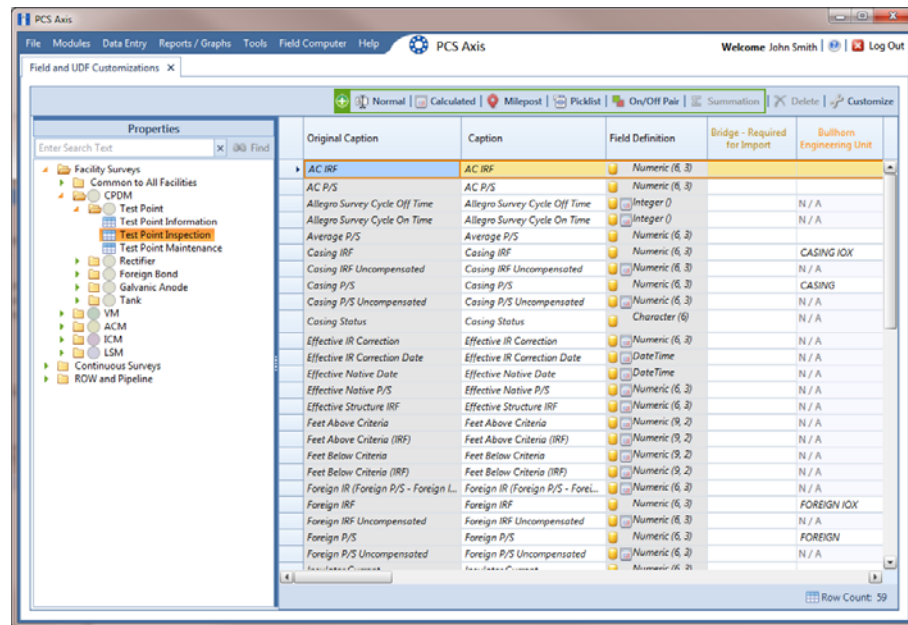

Figure 3-34. Field and UDF Customizations
- 3 Select an item in the *Properties* panel that includes the data entry grid you want to add a UDF. For example, double-click **Facility Surveys > CPDM > Test Point > Test Point Inspection** to display a grid with fields and property settings related to the *Test Point Inspection* data entry grid (Figure 3-34).
- Click a toggle button  to open a field category, such as *Test Point Inspection Fields* shown in Figure 3-34, page 76. Double-click a field in the list of fields to add it in the *Expression* field. Define the UDF using the operator and functions buttons.